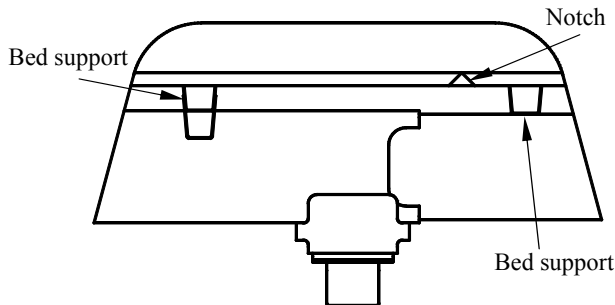

Figure 2
2. From the driver's side wheel well, notch the sheet metal flange as shown in Figure 2. After notching, the cut steel surfaces should be touched up with paint to prevent rusting. As an alternative, the truck bed may be removed, or the mounting bolts removed from the driver's side of the bed and loosened on the passenger's side of the bed in order to allow installation of the rails.
- From the driver's side wheel well, notch the sheet metal flange as shown in Figure 2. After notching, the cut steel surfaces should be touched up with paint to prevent rusting. As an alternative, the truck bed may be removed, or the mounting bolts removed from the driver's side of the bed and loosened on the passenger's side of the bed in order to allow installation of the rails.